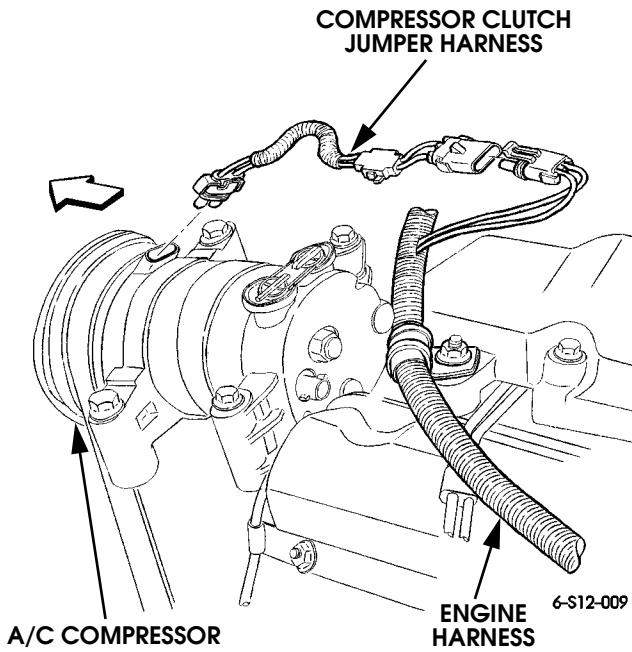

Figure 12-60: Engine Harness Connection at A/C Compressor (Turbo Diesel)
- A/C compressor clutch wires (Figures 12-60 and 12-61)